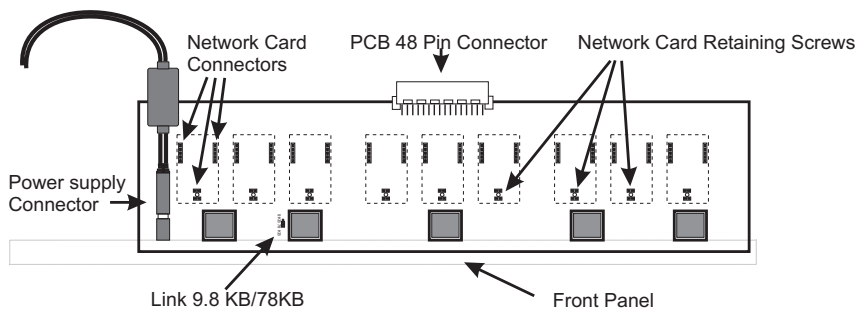

Figure 2 Star Driver PCB
Your star driver can contain up to 9 network cards (minimum 2) in any of the positions shown in Figure 2. The currently-supported network cards are:
Any of these cards can be combined if they are the same speed (baud rate), and are the same speed as the link setting on the star driver's PCB (see Figure 2)
Figure 2 shows the Star Driver PCB, the dotted boxes indicate the positions for the network cards.
- Using an appropriate screwdriver, remove the network card retaining screw from the mounting pillar (see Figure 2).
- Check that the PCB 9.8KB / 78KB Link is correctly set (see Figure 2)